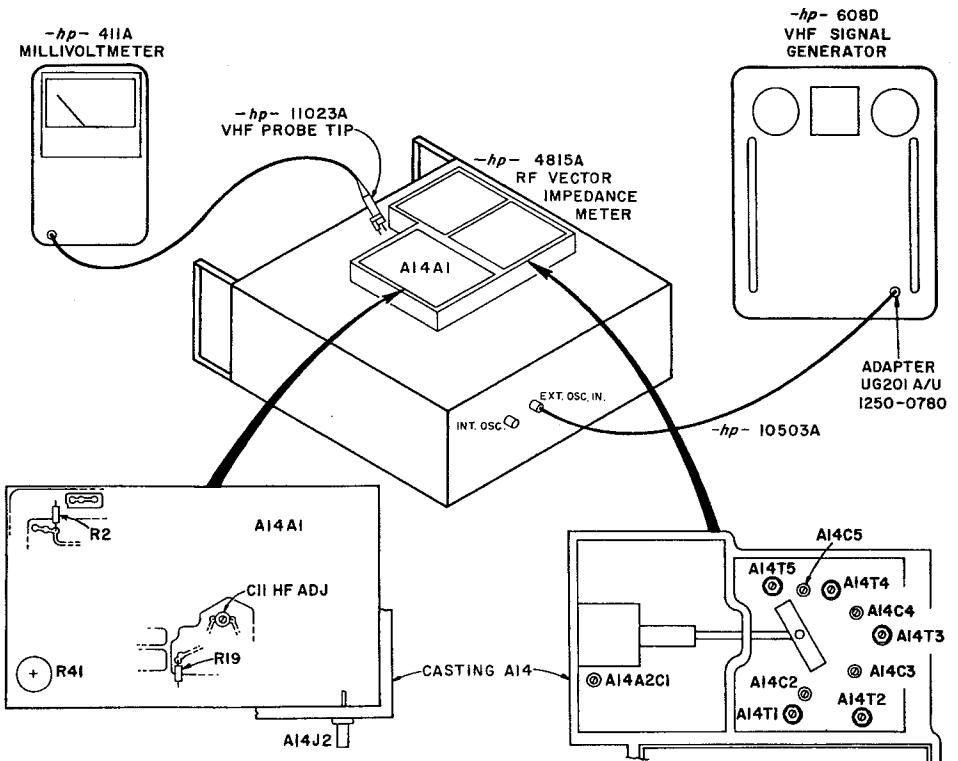

Figure 5-8. Setup for Modulator-Oscillator Adjustments
- a. Connect equipment as shown in Figure 5-8.
are made from bottom. Refer to Figure 5-8